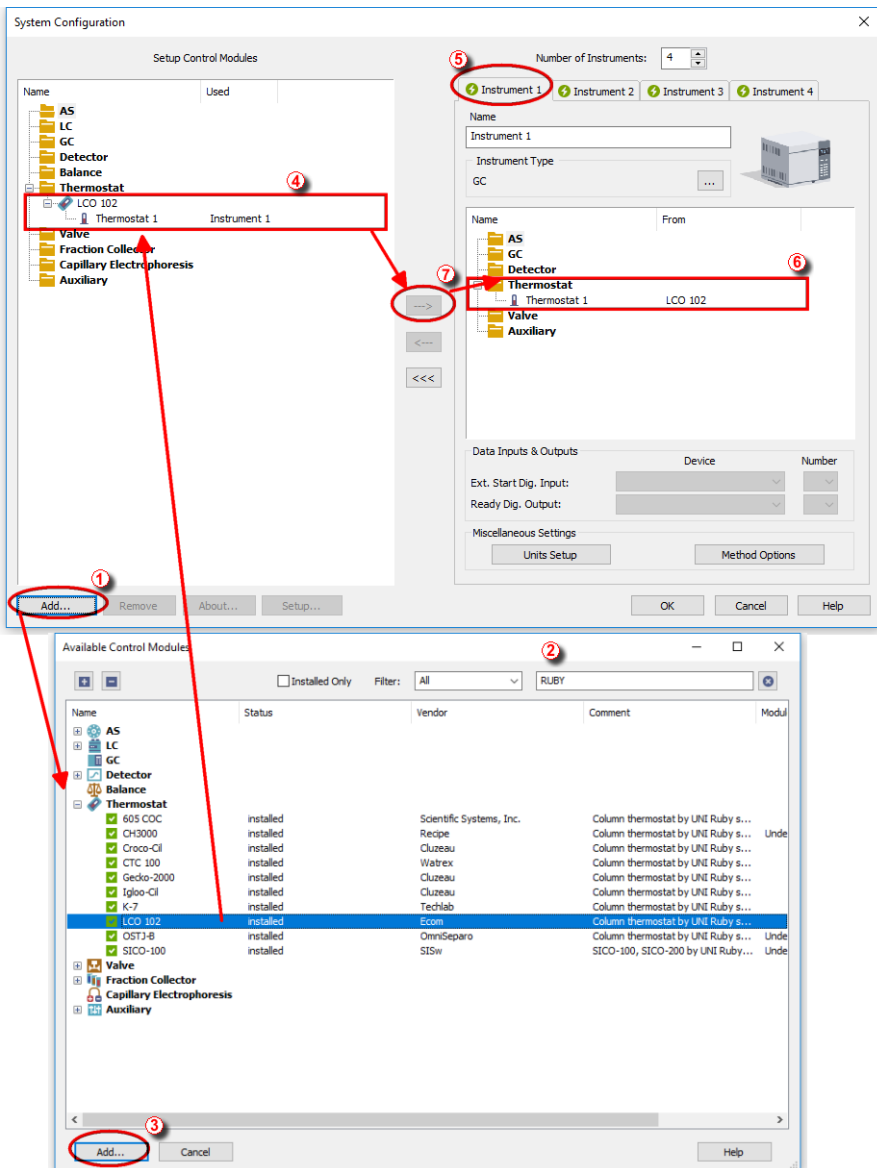

Fig. 3: How to Add Ecom LCO 102 module
- Press the *Add* button (① on **Fig. 3** on pg. 4.) to invoke the *Available Control Modules* dialog.
- You can specify the search filter (②) to simplify the finding of the driver.
- Select the correct item and press the *Add* (③ on **Fig. 3** on pg. 4.) button. Each device with already created UNI profile should have its own item named accordingly in the *Available Control Modules* dialog.